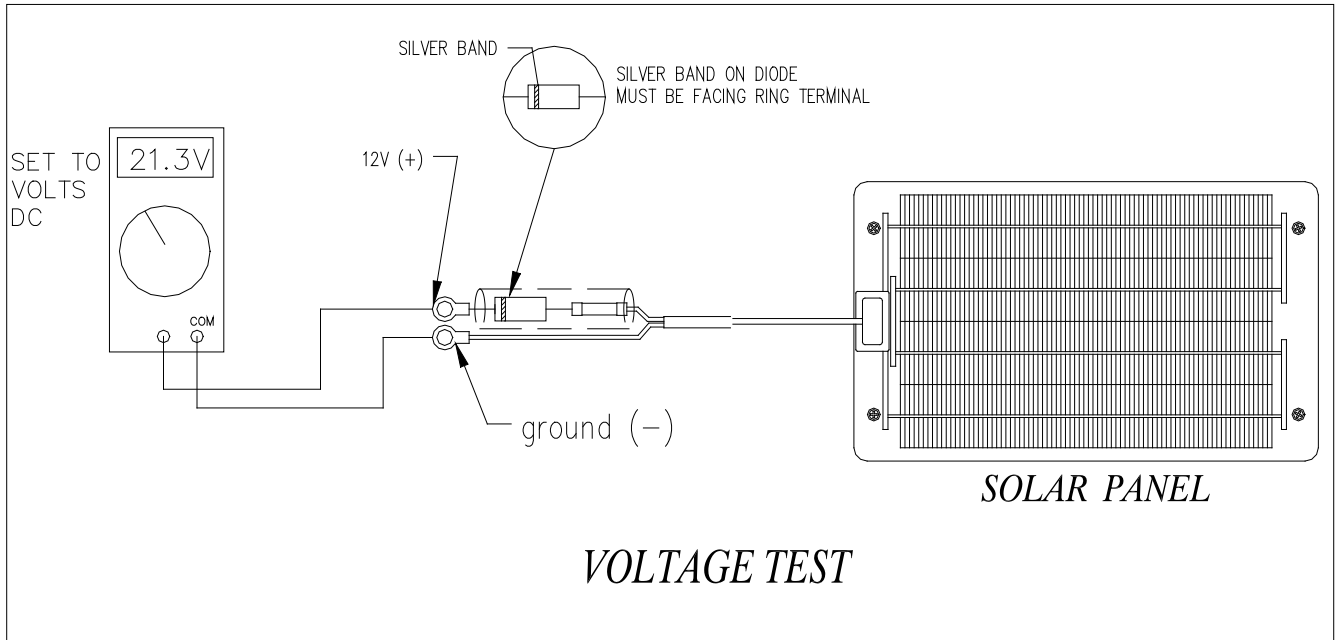

Figure 3-1
2. Refer to figure 3-1. Using a multimeter, set the meter to read 'Volts DC'. Check voltage across the two solar panel terminals. A +17 to +21V (12V solar panel) or +34 to +42V (24V solar panel) should be present when solar panel is in the sunlight. If not, the blocking diode in the positive cable is bad. Go to Test #2- Diode test.